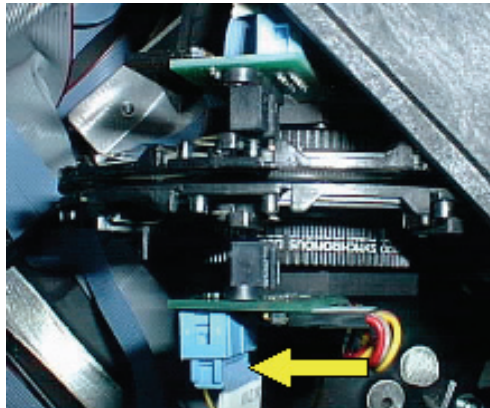

Figure 105 Attaching the emission control cable
10. Attach the emission filter wheel control cable, as shown in Figure 105.